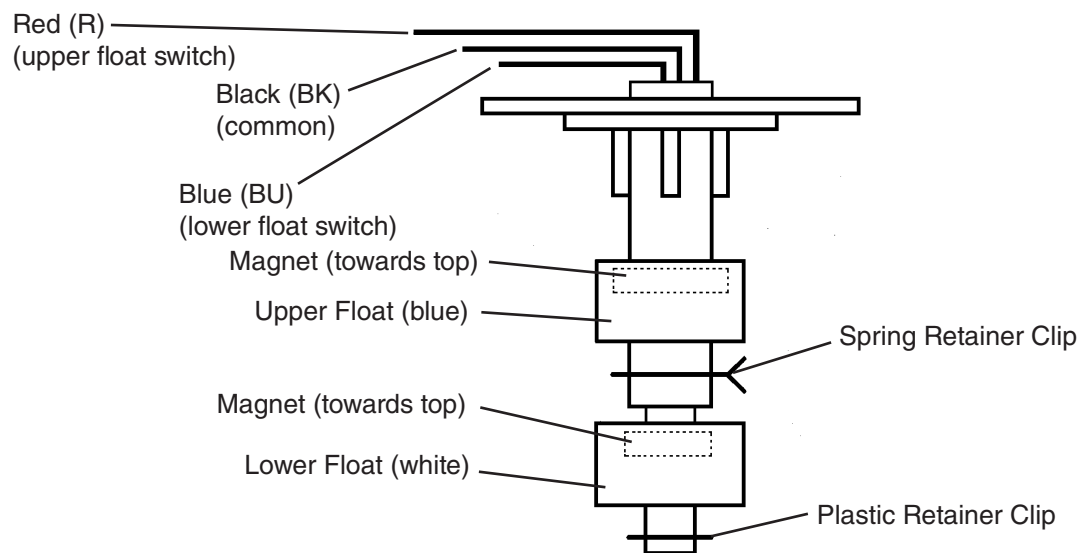

Fig. 7
- 2) After the water has drained from the reservoir, remove the FS molex plug from the control box and check continuity across FS wires. Common (BK) to UFS (R) and common (BK) to LFS (BU). See Fig. 7. With the reservoir empty, float switches are open. If open, continue to step 3. If closed, follow the steps in "II.E.2. Float Switch Cleaning." After cleaning, check them again. Replace if necessary.
- 7) Remove the FS molex plug from the control box and check continuity across FS wires. Common (BK) to UFS (R) and common (BK) to LFS (BU). With the reservoir full, float switches are closed. If open, follow the steps in "II.E.2. Float Switch Cleaning." After cleaning, check them again. Replace if necessary.